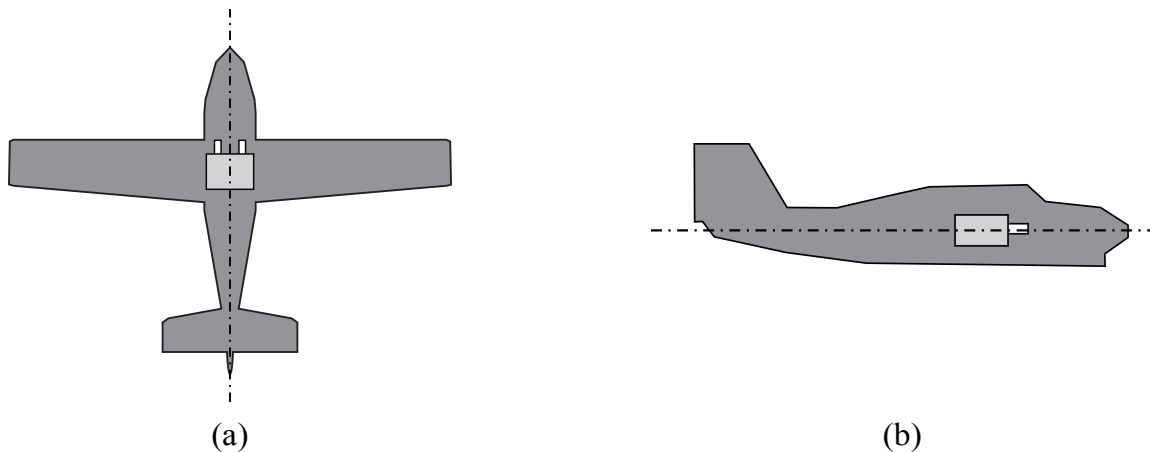

Fig. 2. AEOLUS-SENSE 4(T) ADS-B should be mounted parallel to the main axes of the airplane.
It is important for the AEOLUS-SENSE 4(T) ADS-B to be mounted parallel and as close as possible to the symmetry axes of the airplane (see Fig. 2). The front side of the AEOLUS-SENSE 4(T) ADS-B is marked by a small airplane on the cover of the unit. After mounting the AEOLUS-SENSE 4(T) ADS-B, the “AHRS leveling” procedure described in Section 1.5 of the current manual should be performed, in order to adjust for small inaccuracies during placement.